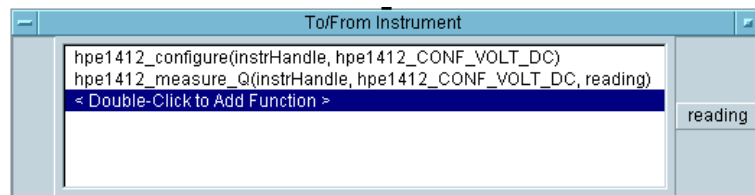

Figure 3-34. HPE1412 Driver Ready for a DC Reading
10. Click OK. A second function call is listed in the To/From Instrument object as shown in Figure 3-34.